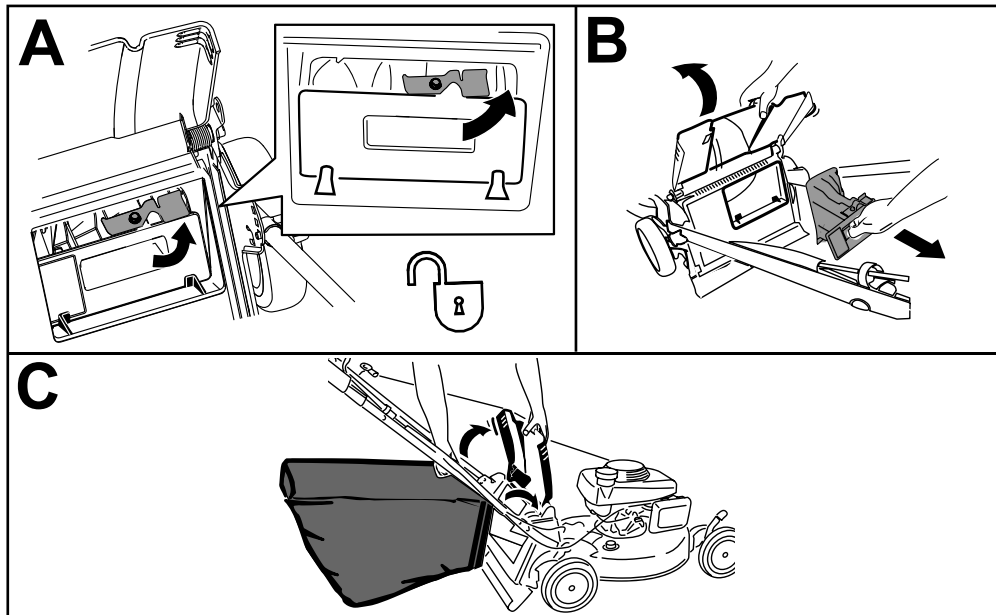

Figure 16
Note: To unlock the rear plug, rotate the lever on the plug to the right (Figure 16).
1. Raise and hold up the rear deflector and unlock the rear plug (A of Figure 16).
2. Pull out the rear plug (B of Figure 16).
3. Hang the upper front edge of the bag from the grass-bag pins on the notches of the handle brackets (C of Figure 16).